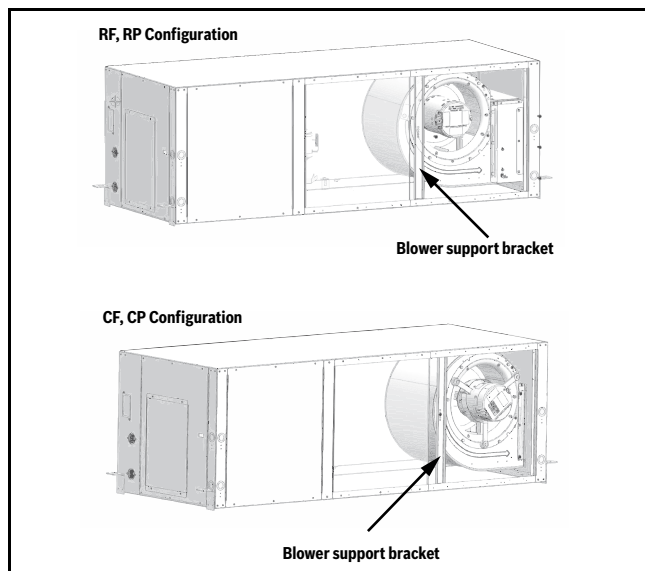

Fig. 29 Blower Support Bracket
1. Remove one screw from the blower support bracket, then move blower support bracket to the side. (→Refer to Fig. 29.)